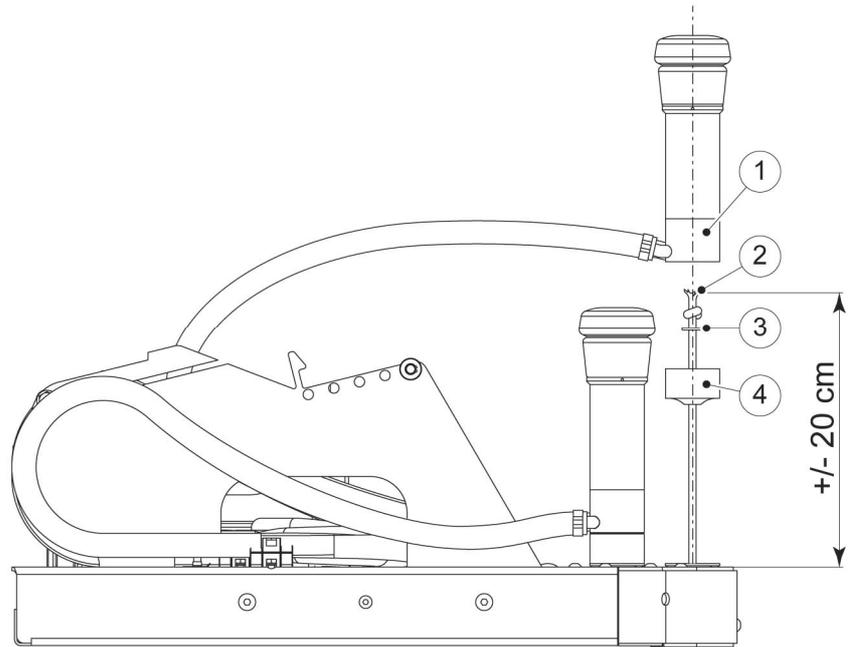
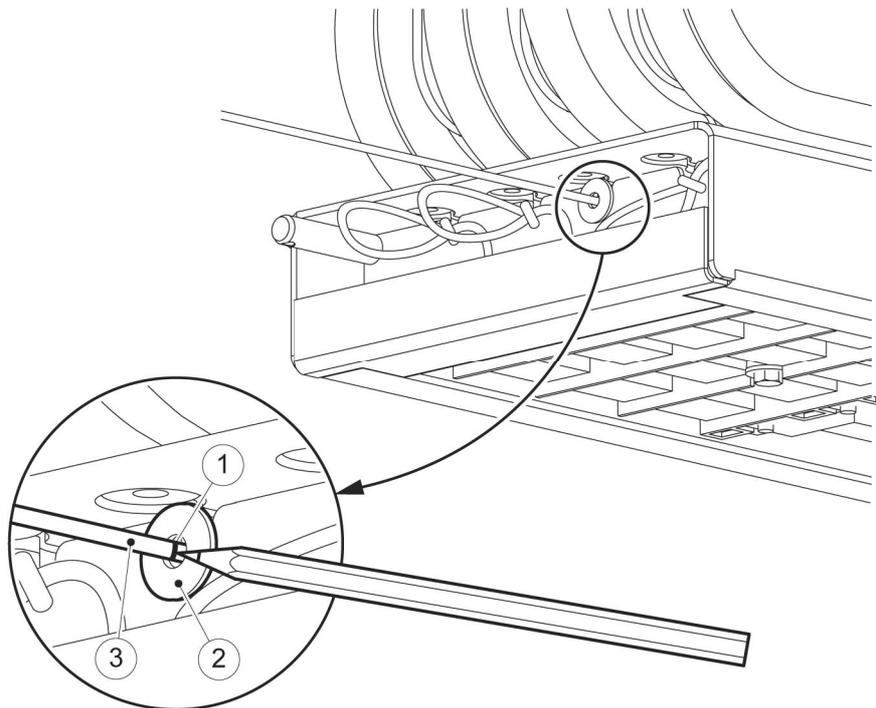
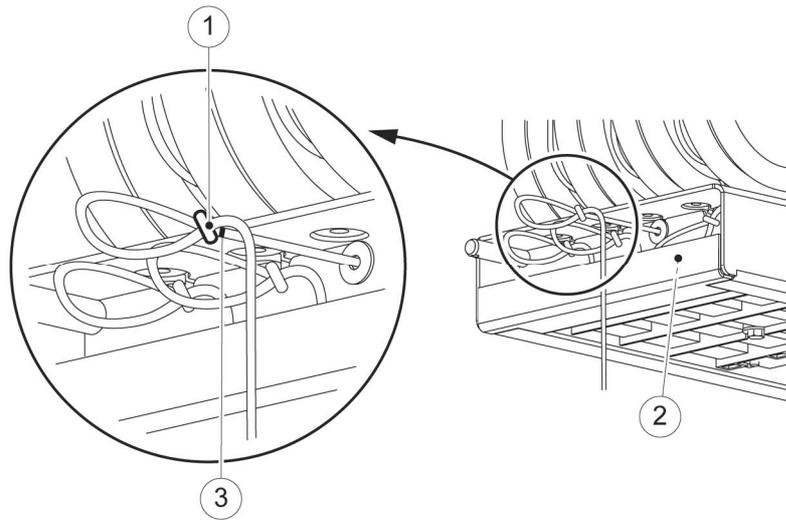

Figure 2: Measure the cord length
Figure 3: Mark the cord
Figure 4: Tie the cord just behind the mark
5. Remove the two Allen screws and centering piece (fig. 2/4) from the milk collector (1).
9. Make sure the cup cord is through the centering piece (4) and the washer (3).
10. Tie a knot (2) in the cup cord.
13. Make sure the cup cord (fig. 3/3) is put through the washer (2).
15. Use a ballpoint pen to mark (1) the cup cord where it goes into the mothership.
17. Tie a slip knot (fig. 4/1) in the cup cord just behind the mark (3).
20. Put the cup cord(s) into the mothership (2).